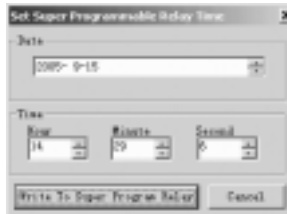

Fig. 4.21 Modify Time Interface
c. Click option “Set Super Program Relay’s Time” under menu “Option” with left button of the mouse, or click “” under toolbar, dialog box appears shown as Fig. 4.21.